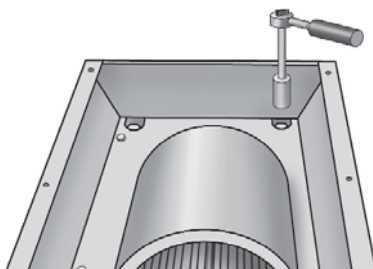

Fig. 8
3. Again place the Air Curtain into position. Using a ratchet and socket with a long extension, screw the unit to the wall. (See Fig. 8) The socket extension should allow you to install the unit without having to remove the motor/blower plate.